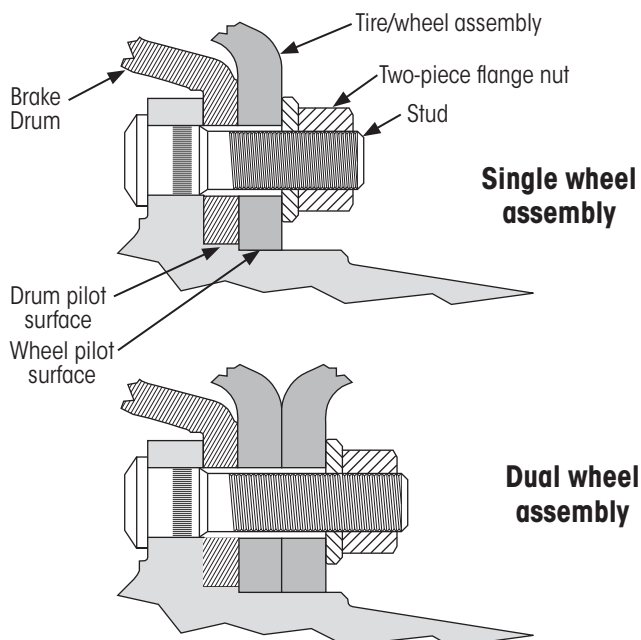
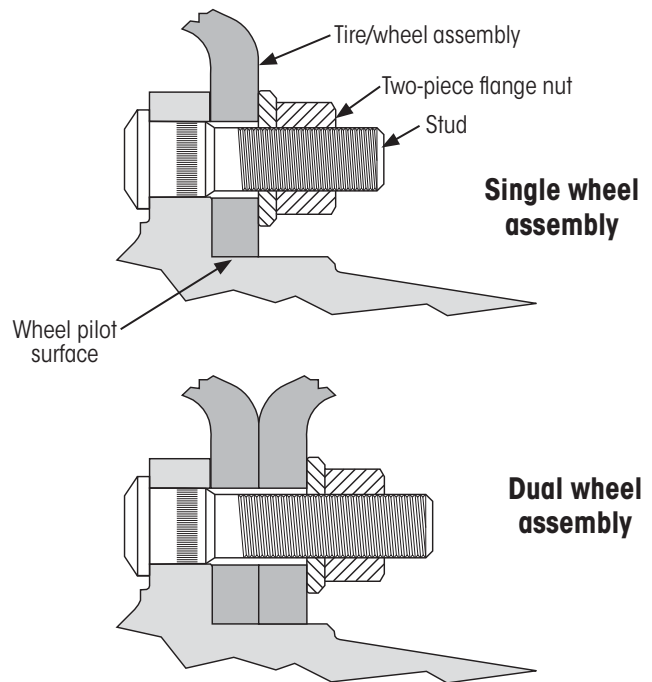

Figure 18: Drum hub piloted wheel mounting system
Figure 19: ADB hub piloted wheel mounting system
The entire wheel assembly is fastened together by a single two-piece flange nut on each wheel stud for both single and dual wheel applications. Figure 18 and Figure 19 show the difference between drum and ADB hub pilots.
3. Mount brake drum on hub so it fully seats on drum pilot and against hub face (Figure 18).